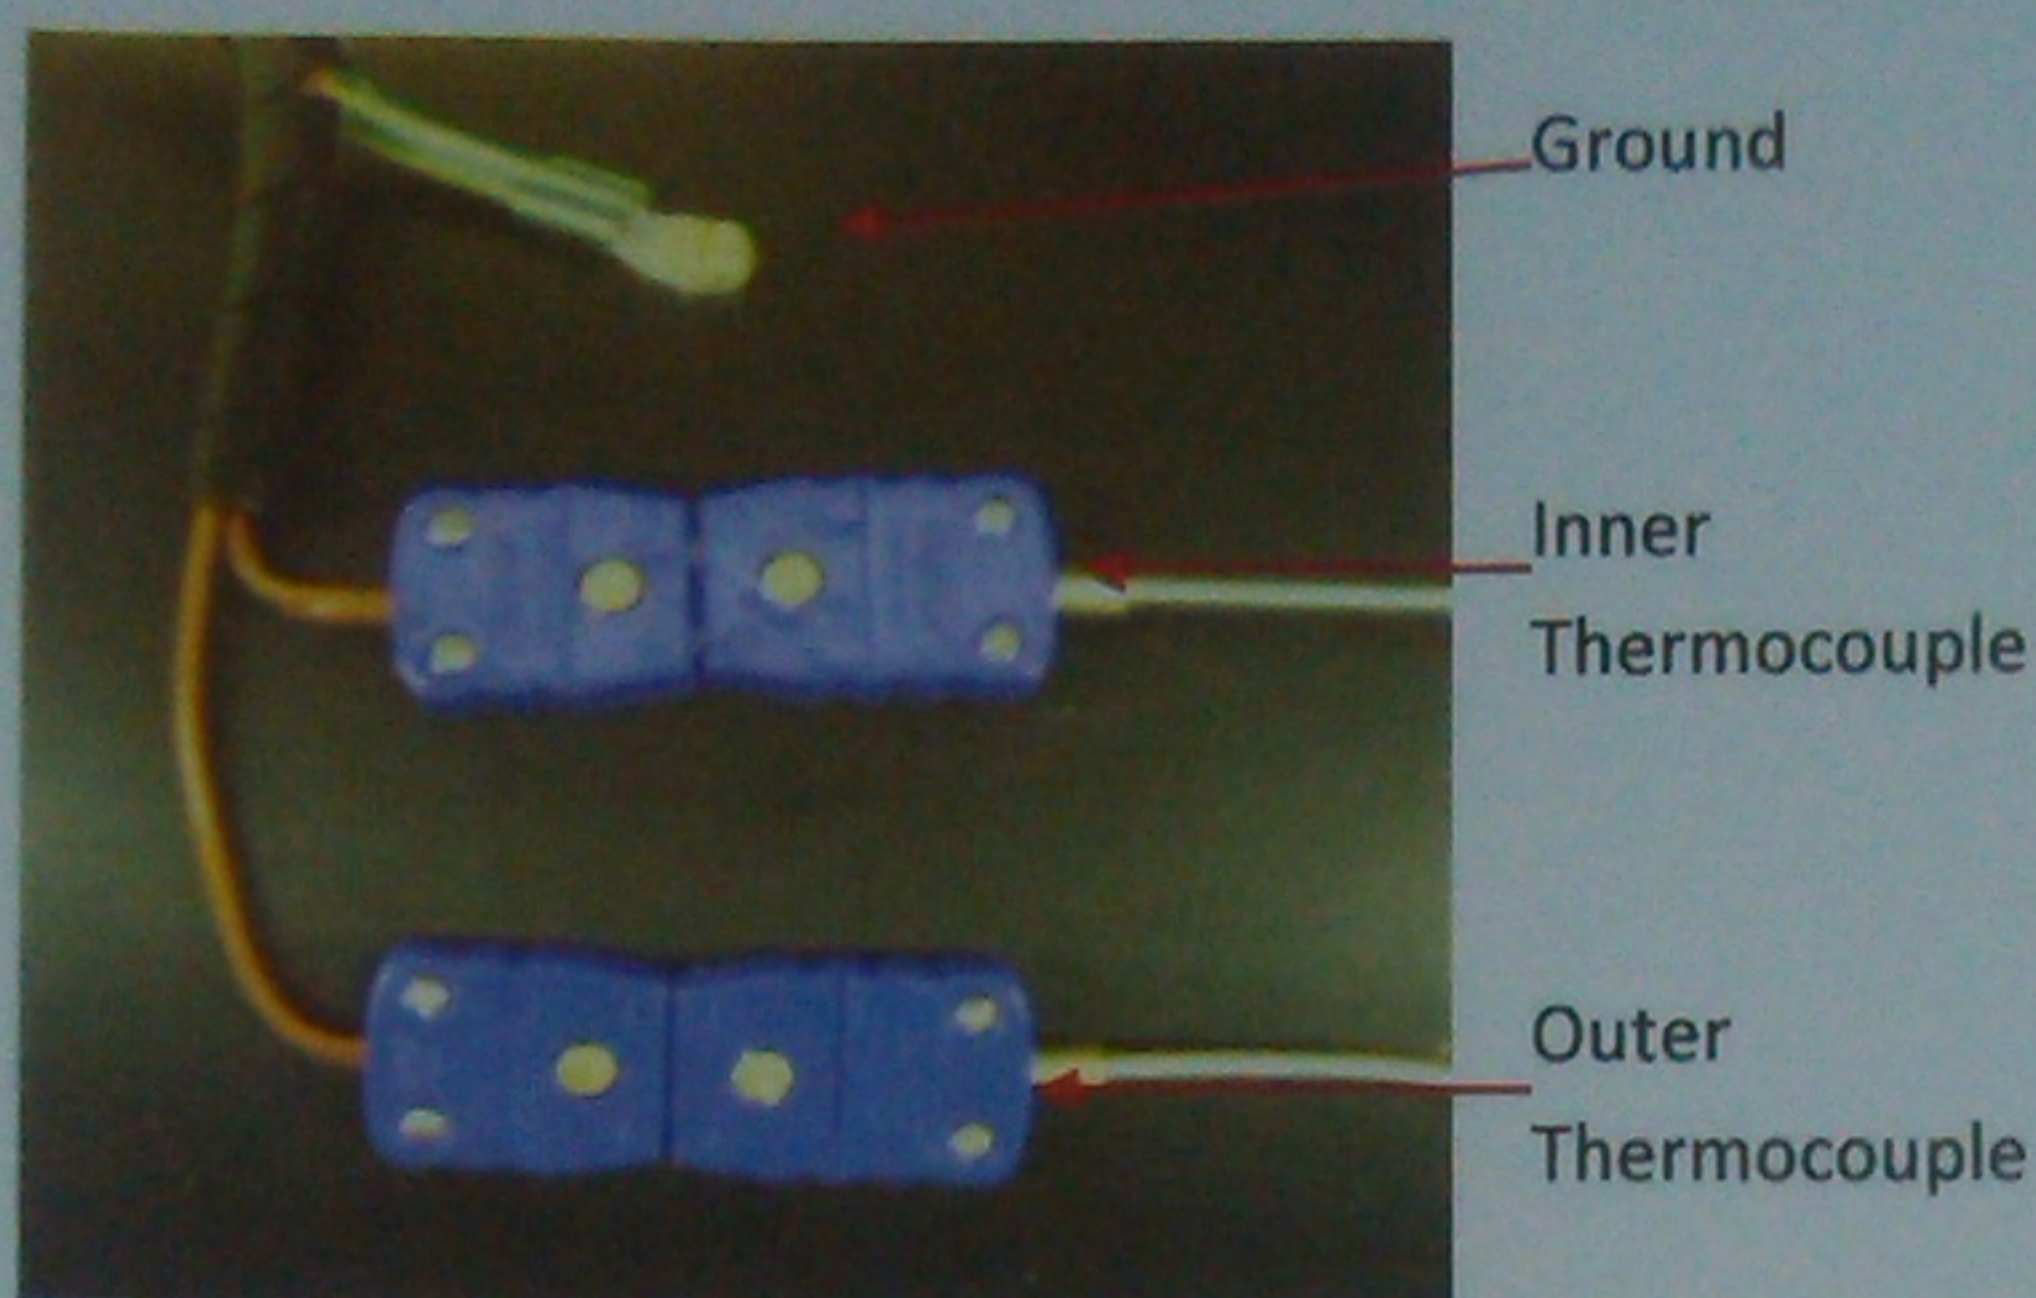

Figure 4
3. Route the thermocouple and ground lead to the oven as per figure 4. Remove the brass screw and connect the ground cable. Remove the small brass screw in front of each of the thermocouple plugs. Plug in the outer and inner end zones thermocouple leads as per figure 4. Secure the plus with